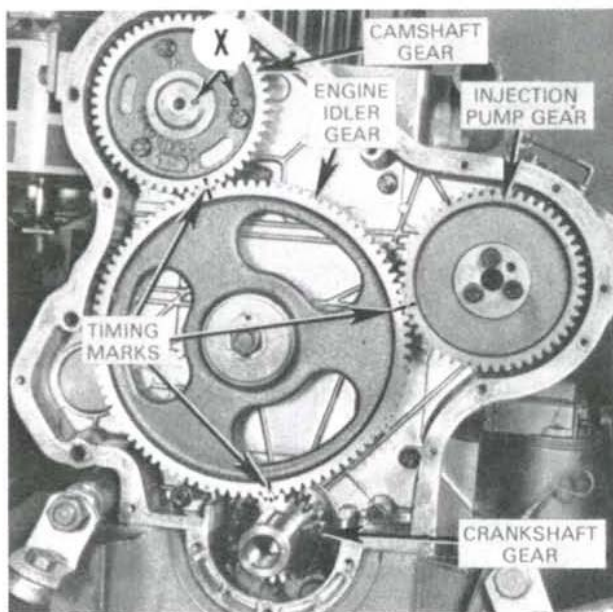

Fig. 67—View of timing gear train with timing marks aligned. Due to odd number of teeth on idler gear, marks align only once in 18 revolutions of crankshaft.
65. Fig. 67 shows a view of timing gear train with cover removed. Before attempting to remove any of the timing gears, first remove fuel tank, rocker arm cover and rocker arms assembly to avoid the possibility of damage to pistons or valve train if camshaft or crankshaft
66. **CAMSHAFT GEAR.** The gear is attached to camshaft by three equally spaced cap screws which thread into camshaft flange. It is possible, therefore, to install the gear in three positions, only one of which is correct. To correctly install the gear, align the stamped letters "D" on camshaft hub and front face of gear as shown at (X—Fig. 67). Tighten cap screws to 27 N · m (20 ft.-lbs.) torque.
When reinstalling gear, make certain all timing marks are aligned as shown in Fig. 67. Tighten retaining cap screw to 68 N·m (50 ft.-lbs.) torque.
69. TIMING THE GEARS. Due to the odd number of teeth on idler gear, the timing marks will align only once in 18 crankshaft revolutions. To time the engine after the gears are removed, first install camshaft gear as outlined in paragraph 66 and the injection pump gear as in paragraph 67. Install the crankshaft gear on keyed shaft with timing mark to the front. Refer to Fig. 67 and turn crankshaft, camshaft and injection pump until the respective timing marks point approximately toward idler gear hub; then, install idler gear aligning timing marks as shown.
To reinstall camshaft, reverse the removal procedure. If camshaft gear was removed, be sure stamped letters (X—Fig. 67) on gear and camshaft flange are aligned. Tighten gear retaining cap screws to 27 N·m (20 ft.-lbs.) torque.